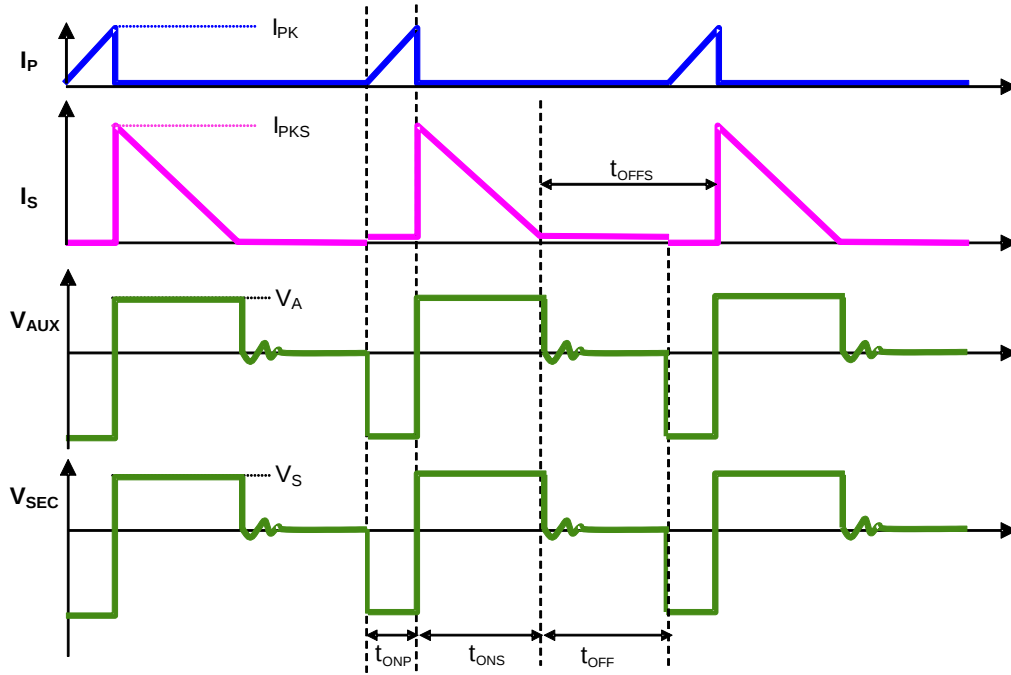

Figure 2. The Operation Waveform of Flyback PSR System
As illustrated in Figure 2, when the current $i_p(t)$ rises up to I_{PK} , the switch Q1 turns off. The constant peak current is given by:
The AP3776B can work in constant-current (CC) mode. Figure 2 shows the secondary current waveforms.